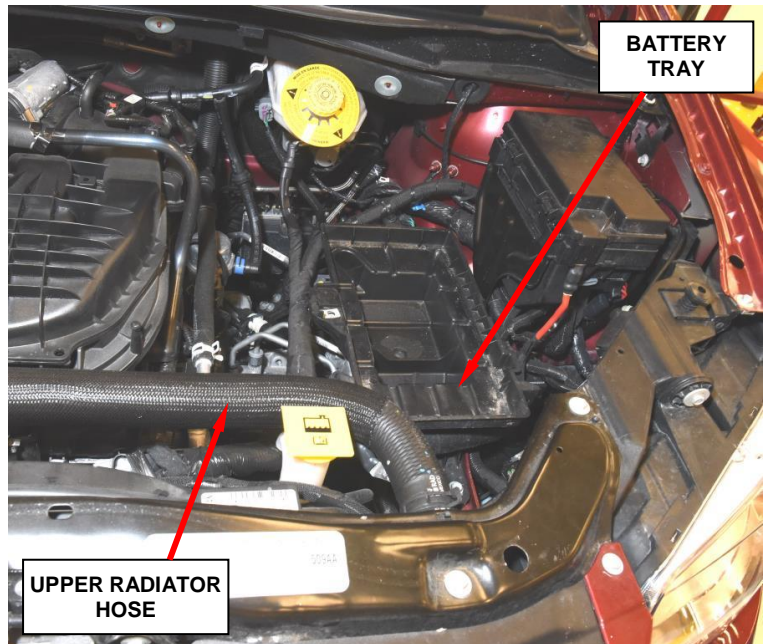

Figure 1 – Battery and Battery Tray
5. Remove and save the battery tray (Figure 1).